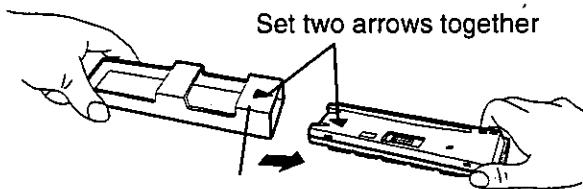

Fig. 3
- ④ As shown in Fig. 3, insert the removable face plate with the arrow pointing toward the removable face plate case ⑦ until you hear a "click". Keep the removable face plate in the case. Then, you can bring the plate safely.